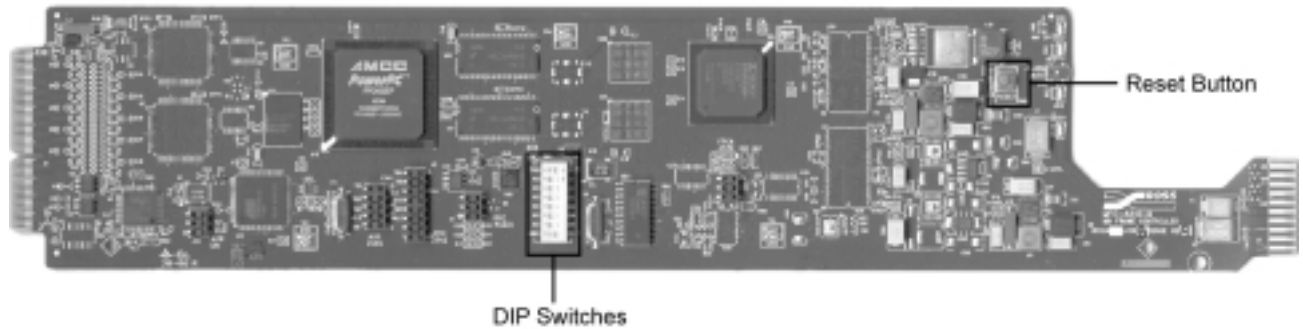

Figure 13. MFC-8310-N DIP Switches
1. On the MFC-8310-N card, set DIP_8 to **ON**. Refer to Figures 13 and 14 for DIP Switch locations.